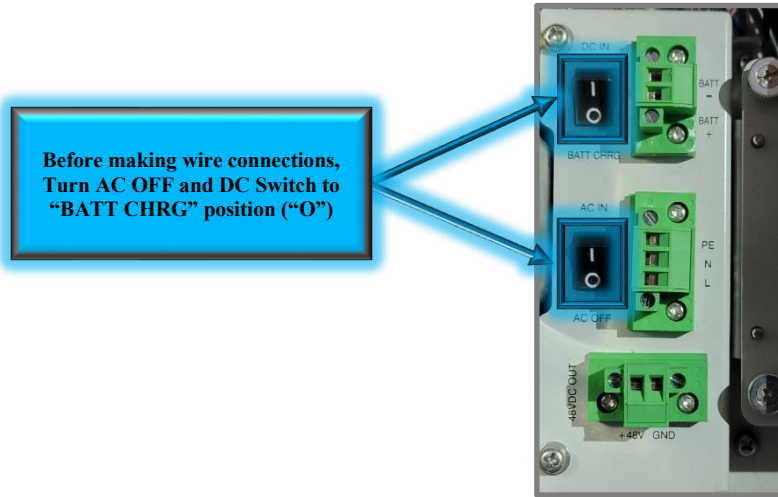

Figure 43: BDA/MU/RU AC and DC Switch OFF
- Switch both AC IN/AC OFF (POWER) and DC IN/BATT CHRG (BATTERY) to OFF (O) in the BDA/MU/RU as shown in Figure 43 below.